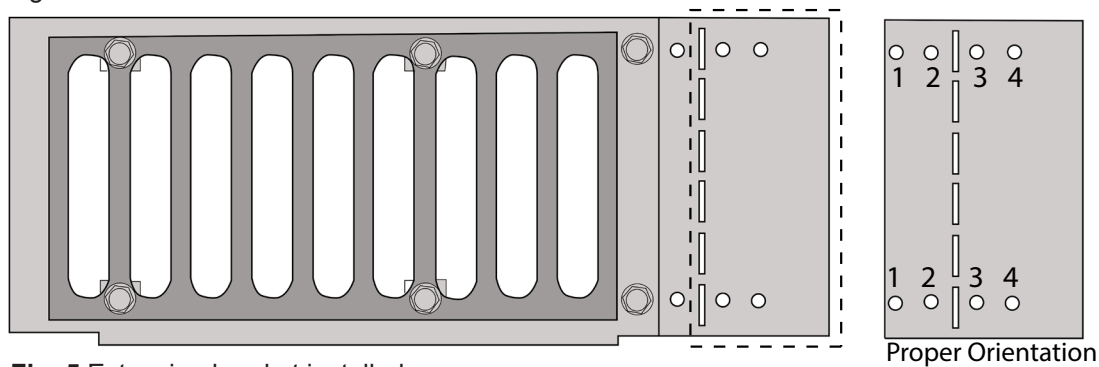

**Fig. 4** Top view of vent installed with lintel (shaded area) supporting the back side.
The lintel (page 3, Fig. 4) is a 3" x 12" piece of sheet metal used to support the back side of the paver blocks.
Place the lintel across back side of the paver block to support your next row of blocks. See the shaded area in Fig. 4 showing the placement of the lintel. Securing the lintel with some type of adhesive is optional.
**STEP 3:** After you have determined the location and measured the width, install the vent kit bracket and mark the inside area as shown in Fig. 4.